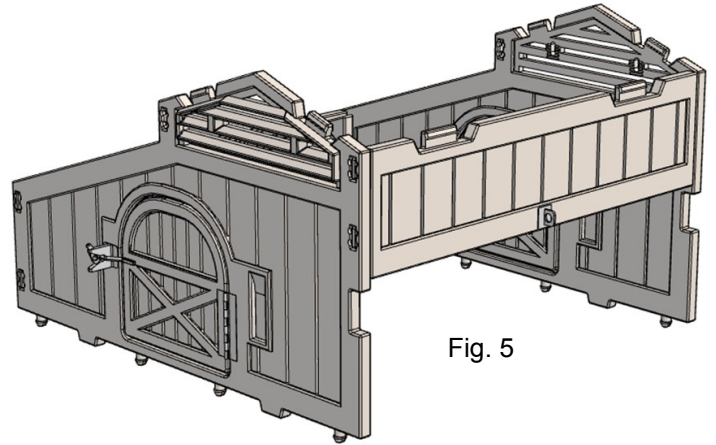

Fig. 5
Step 5: Assemble the Upper Side Wall to the Back Wall and the Front Wall (Fig. 5). Notice the hasp eye facing outwards and the tabs at the top of the Upper Side Wall.